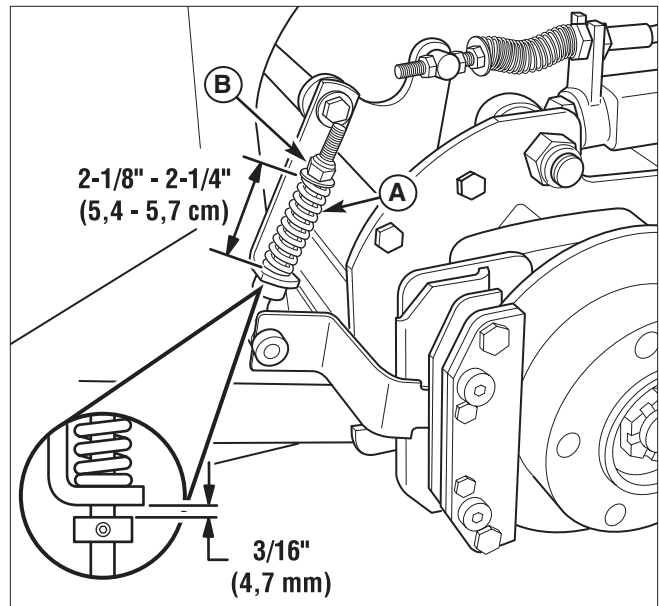

Figure 36. Parking Brake Adjustment
3. With the parking brake engaged, measure the compressed spring length (see Figure 36). The spring should be 2-1/8" - 2-1/4" (5,4 - 5,7 cm) long when compressed.
4. If the spring does not measure 2-1/8" - 2-1/4" (5,4 - 5,7 cm), release the parking brake and turn the adjustment nut (B) to adjust the spring length